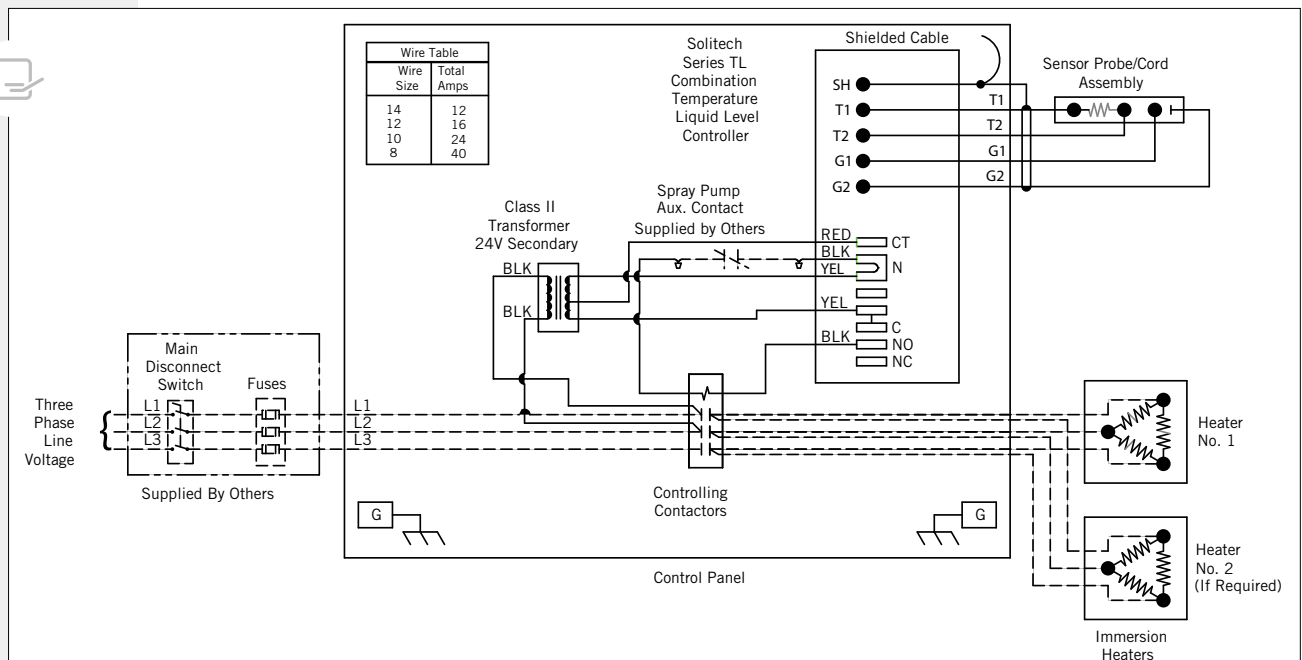

Figure 9. Example Wiring Diagram for Stand Alone BAC Heater Control Panel (Refer to Submittal Drawing for Specific Wiring Diagram)
**NOTE:** Figure 9 is superseded by any drawing supplied with the panel by the manufacturer.